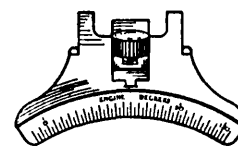

FIG. 12.
A special synchronizing tool, Delco-Remy #1835009 (see Fig. 12), has been developed to aid in this adjustment. (The new synchronizing tool will be found listed in the tool section of this Service.)
8. Clamp synchronizing tool #1835009 (Fig. 12), to edge of distributor housing, so that one edge of terminal on the rotor aligns with 0° mark on tool.